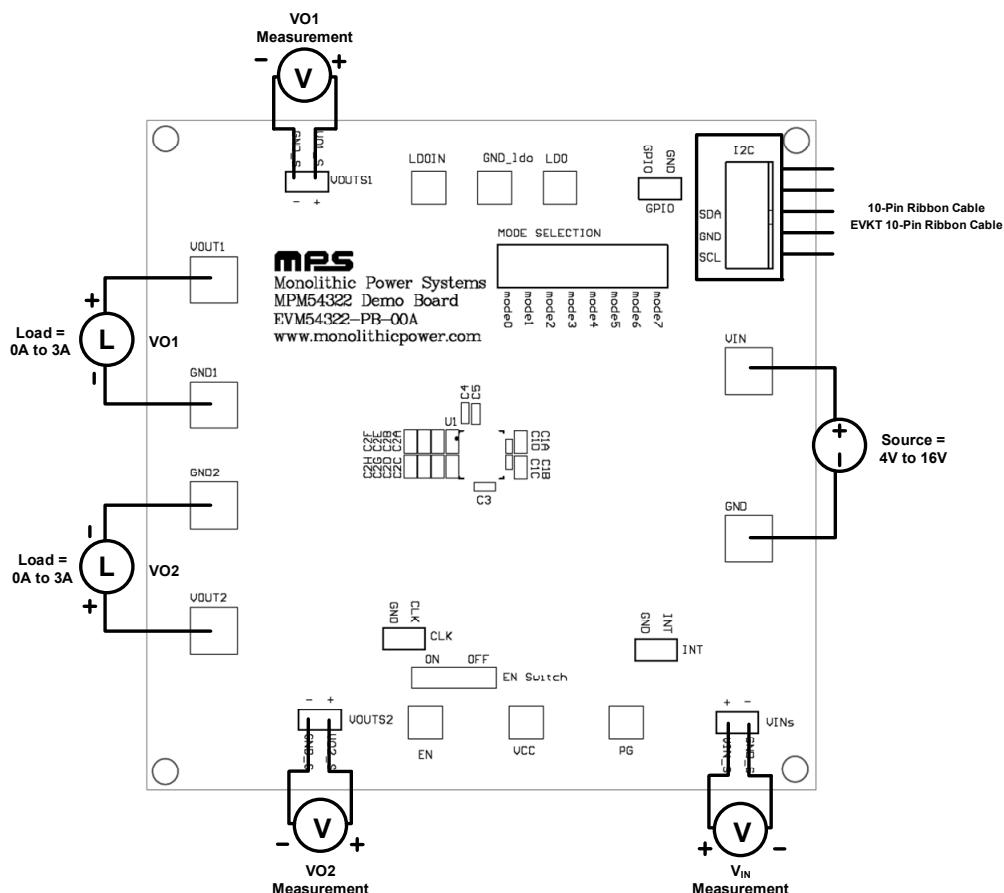

Figure 1: Measurement Equipment Set-Up
The EVM54322-PB-00A is easy to set up to evaluate the performance of the MPM54322. Refer to Figure 1 for the proper measurement equipment set-up and follow the instructions below.
4. Turn the power supply on and turn the EN switch on. The board should automatically start up. Figure 1 shows the proper measurement equipment set-up.